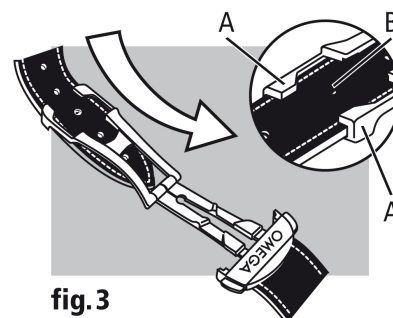

fig.3
**Adjusting the length (fig. 3):** free the longer section from the two slideways (A) and from the catch (B). Adjust the bracelet in the required direction and reinsert in the catch and the two slideways. Try the watch for size and readjust if necessary.